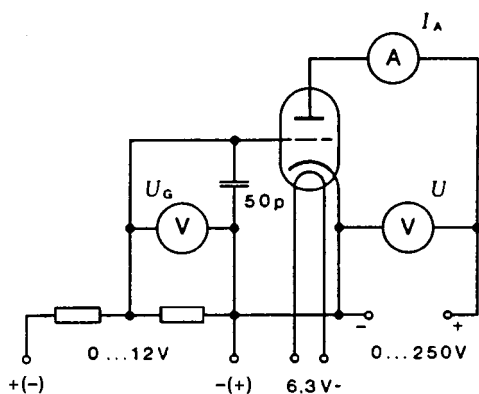

Fig. 3: Circuit for measuring the characteristic curves of a triode.
2. Construct the circuit shown in Fig. 3. As the tubes may oscillate in the VHF range if the wiring is not altogether satisfactory, connect a small capacitor between grid and cathode to short-circuit the high frequency. Measure the anode current as a function of the grid voltage, both positive and negative, at various anode voltages (e.g. 50, 75, 100, 125, 150 V). Stop taking measurements as soon as the anode current exceeds 30 mA.